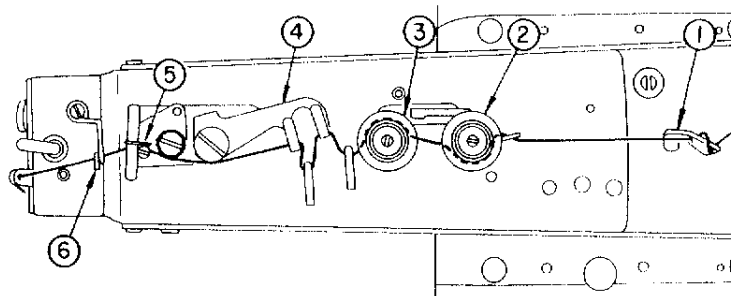

Fig. 6
9. ENFILAGE - FIGURES 6 ET 7
POUR PROCEDER A L'ENFILAGE, METTRE L'EMBRAYAGE SUR STOP ET FAIRE SUIVRE AU FIL LE CHEMIN TEL QUE DECRIT DANS LES FIGURES 6 ET 7. DEMARRER DU CONE -i GUIDE FIL No 1 -i DISQUE TENSION No 2 -i DISQUE TENSION No 3 -i LEVIER RELACHEMENT No 4 -i BLOC TENSION No 5 -i GUIDE FIL No 6 -i GUIDE FIL No 7 -i GUIDE FIL No 8 -i GUIDE FIL No 9 -i DISQUE TENSION No 10 JUSQU'AU CHAS DE L'AVANT VERS L'ARRIERE ET TIRER ENVIRON 6 A 7MM DE FIL. POUR TIRER LE FIL, POUSSER LE BOUTON MOLLETE DU RELACHEMENT DE TENSION No 11.
LE RELEVEUR DE FIL, FIG. 6 No 4 CONTROLE LA VALEUR DE FIL TIRE A TRAVERS LA TENSION A LA FIN DU CYCLE DE FACON A FOURNIR UNE LONGUEUR DE FIL SUFFISANTE AU DEBUT DU CYCLE SUIVANT. IL DOIT ETRE REGLE SUIVANT LE DIAMETRE DU FIL ET LE TYPE DE BOUTON.